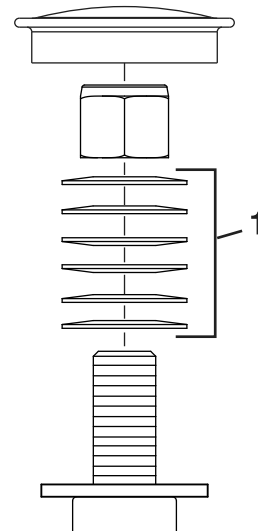

Figure 89
3. Remove the dust cap from the caster and tighten the locknut (Figure 89).
4. Tighten the locknut until the spring washers are flat, and then back off a 1/4 turn to properly set the preload on the bearings (Figure 89).
Important: Make sure that the spring washers are installed correctly as shown in Figure 89.
5. Install the dust cap (Figure 89).